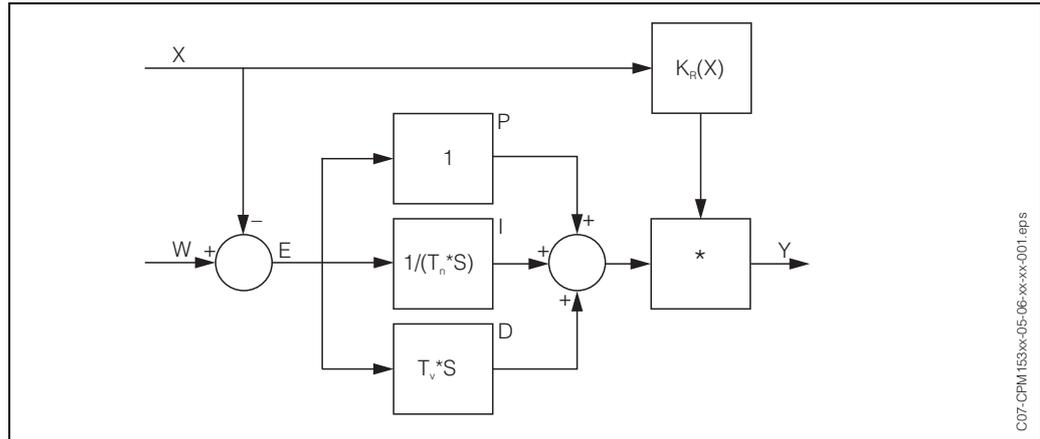

Fig. 20: Schematic diagram of the CPM 153 controller with $K_R(X)$ as the total gain
- The factor $K_R(X)$ is the total gain (see Fig. 20. This is implemented in the CPM 153).